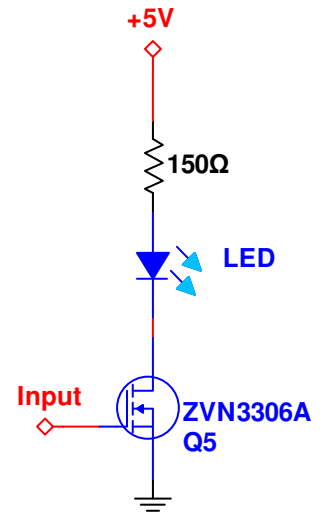

Fig. 5
5) Consider the LED driver shown in Fig. 5. Assume the LED has a forward voltage drop $V_F = 2.2V$ at 20 mA (typical green LED). Perform a typical analysis.